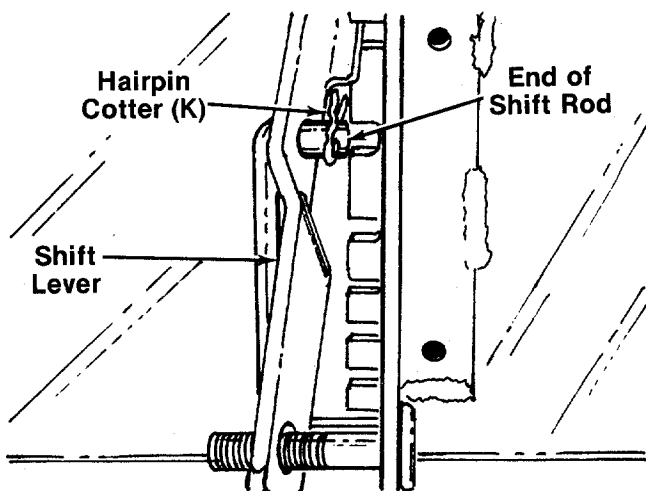

FIGURE 12.
17. Place the shift lever in neutral (N) position. Screw the shift rod in or out until it fits into the hole in the shift lever (drive clutch must still be showing in the locating slot). When shift rod is adjusted to the correct length, insert the end into the hole in the shift lever. Secure with hairpin cotter (K) as shown in figure 12.